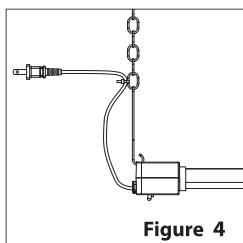

Figure 4
6. Zip tie cord to chain (see Figure 4)